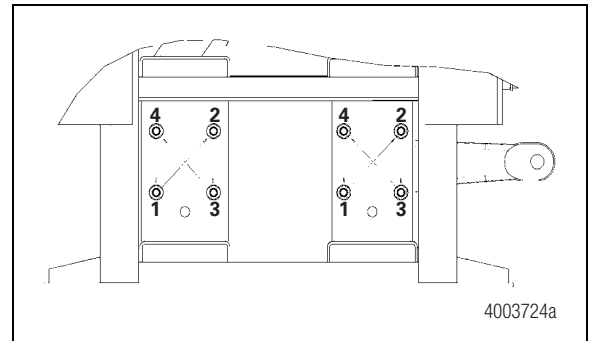

Figure 7.25
6. Tighten the idler arm and relay arm nuts to 180-210 lb-ft (245-286 N•m). Use a crossing pattern to tighten the nuts. Figure 7.25.